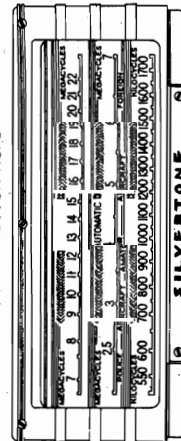

FIG. 1
3. Make a list of station call letters for six nearby powerful broadcast stations for which you wish to set up the buttons. Arrange the stations in your list in the order of frequency. That is, the station of lowest frequency will be first; the next higher, second, and so on. Write the call letters and frequency of each station on the radio log furnished with this receiver and you will be able to determine the proper frequency for each station. After you have marked down the frequencies on your chart, alongside of the station call letters and arranged them in their proper order, number them 1, 2, 3, 4, 5, 6, 7 and 8 respectively. Check each frequency using Figs. 1 & 2. If each frequency falls within the range of its button, proceed as outlined in the following paragraphs.
4. Notice in Fig. 1 that buttons 1 and 2 are for use as tone control buttons. Buttons 3 to 8 inclusive are so set-up for automatic station tuning. The frequency range of buttons 3 and 4 is 540 to 600 KC and 600 to 700 KC respectively. Buttons 5 and 6 are set-up on buttons 3 and 4. Stations with a frequency assignment between 600 and 700 KC may be set-up on button 5 and 6. Button No. 8 may be used for setting up a station between 720 KC and 1700 KC. There can be only one station on your list that has a frequency rating between 1490 KC and 1700 KC and it must be set-up on button No. 8. However, on the same button it is possible to set-up a station whose frequency is as low as 720 KC.
- Push in the button to which you wish to set up the station (See Fig. 1).
- Use a small screw driver and insert it in the "a" screw for that button (See Fig. 1).
- Now insert the screw driver in the "b" screw for that button (See Fig. 1) and turn it to the left or right until the program is received with maximum volume. The correct setting for this screw is when the sides of the tuning eye "shadow" are closest together.